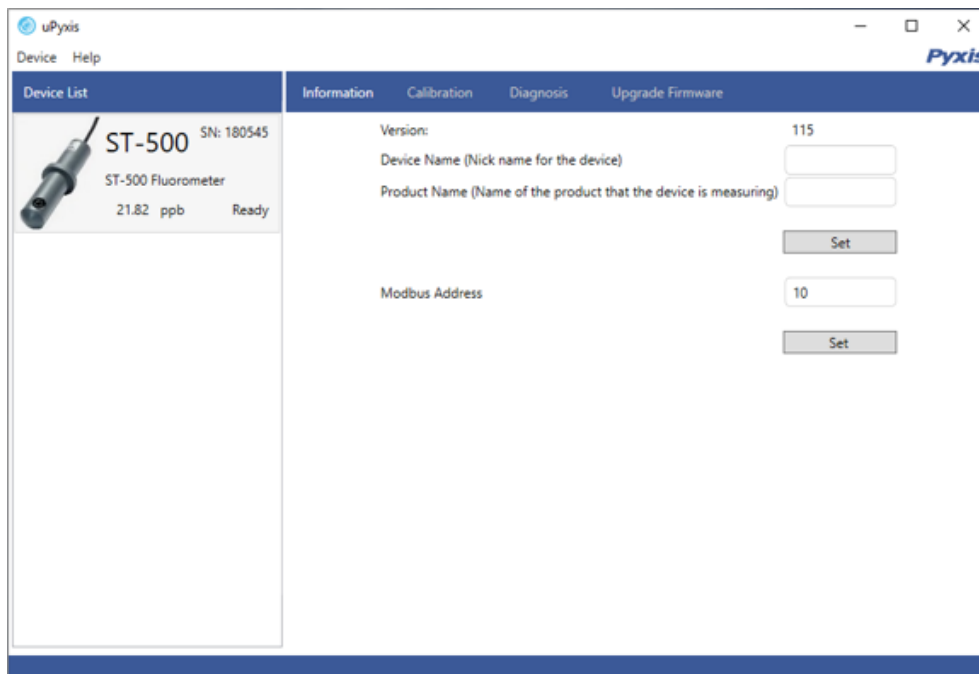

Figure 10. Connected to a ST-500 probe and information page
3. Select **Connect via USB-RS485** (figure 10).